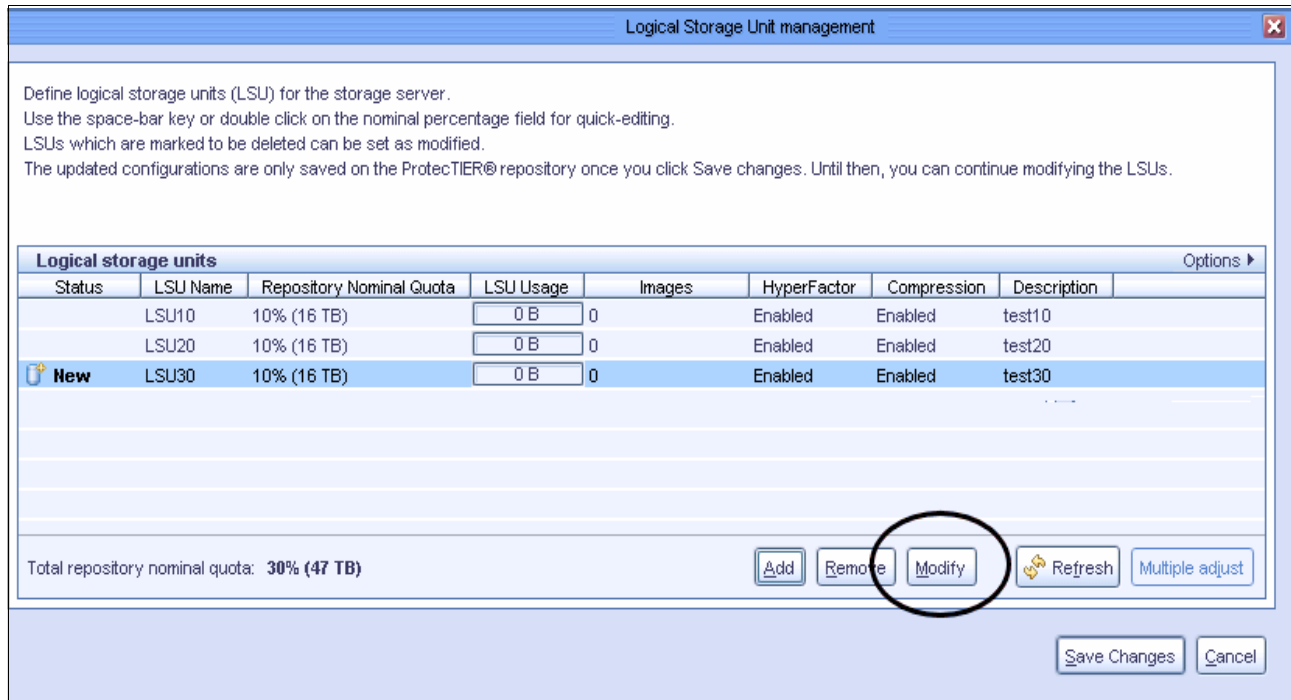

Figure 5-90 Logical Storage Unit management
1. From ProtecTIER Manager, select **OpenStorage** → **Logical Storage Unit management**. The Logical Storage Unit management window opens (Figure 5-90).